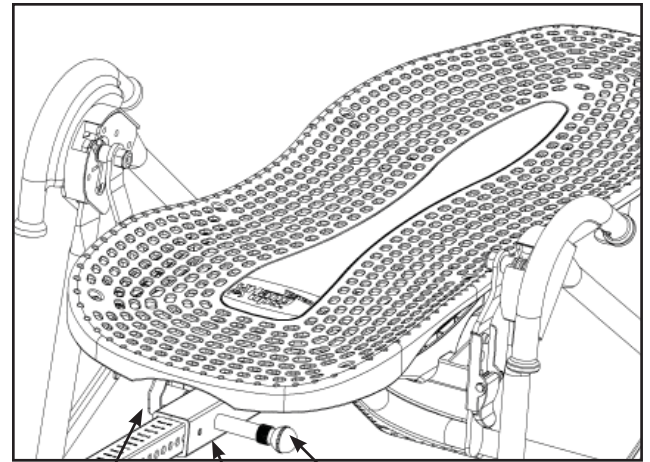

Figure 10
- Pull out the height-selector locking pin to allow the Main Shaft to slide in farther (Figure 10). For the purpose of easy assembly, slide in the Main Shaft and release the pin in the last height setting (Refer to the Owner's Manual for proper height adjustment before use).